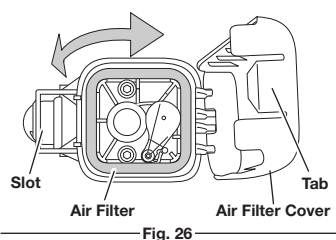

Fig. 26
1. To open the air filter cover, push the tab on the left side of the cover inward and pull the air filter cover slightly out and to the right (Fig. 26).
2. Remove the air filter (Fig. 26).
7. To reinstall the air filter cover, position the hooks on the right side of the air filter cover into the slots at the right side of the back plate (Fig. 26).
8. Swing the cover to the left and press closed so the air filter cover tab snaps into the slot on the back plate (Fig. 26).